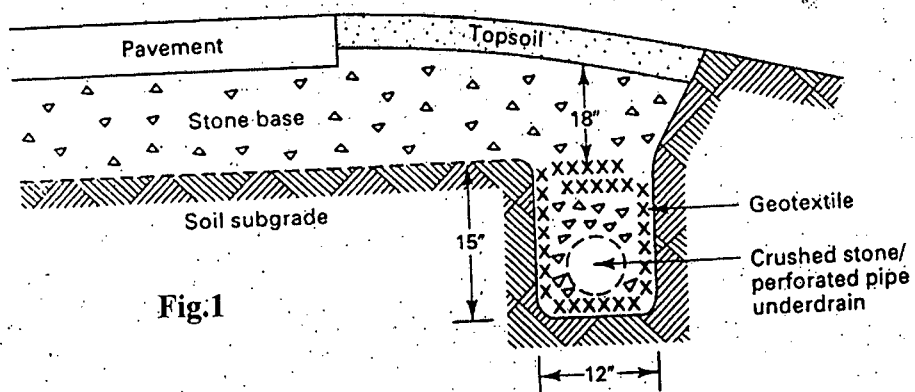

Fig.1
1. (a) Discuss, the affects of water on bearing capacity of foundations and stability of retaining structures. (6)
- (b) Explain the mechanism behind land slides and ground liquefaction problems. (6)
- (d) Discuss various methods for improvement of hydraulic fills during placement. (6)
2. (a) Show, with sketches, how the design of dams and embankments can be made safer and economic in consideration to seepage forces. (6)
- (c) Mention the use of hydraulic fills. Also discuss important factors for the design and performance of hydraulic fills. (9)
3. (a) Discuss the technical analyses that are necessary for the feasibility study of a hydraulic fill. (8)
- (b) A perforated pipe under-drain for a pavement is to be designed with geotextiles (Fig. 1). The pipe will be placed inside graded coarse aggregates which in turn will be surrounded by the geotextile.